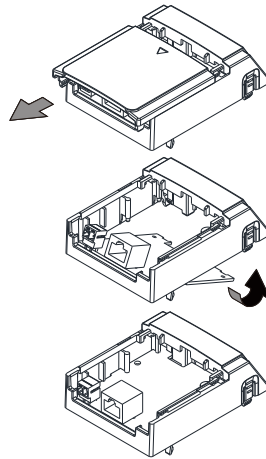

Figure 3-14
2. Assemble the option card: Detach the upper cover of the mounting box for the option card by slipping and make the terminal block and connector of the option card face upward. Fix the front end of the option card to the slots, and then rotate it, as shown in the Figure 3-14.